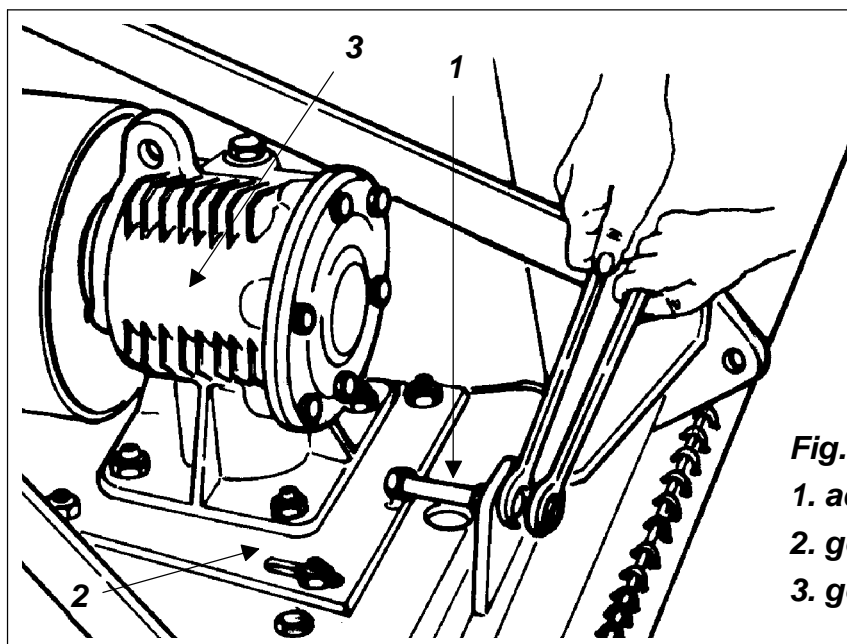

Fig. 10
To adjust the tension of the C70, do the following (**see fig. 10**):
4. Turn the adjustment bolt clockwise, pushing the gearbox support plate forward until all tension is released (**see fig. 10**).
To remove the gearbox do the following (see fig. 10):
2. Remove the safety nut holding the pulley to the spindle shaft (see fig. 10). Remove the pulley.